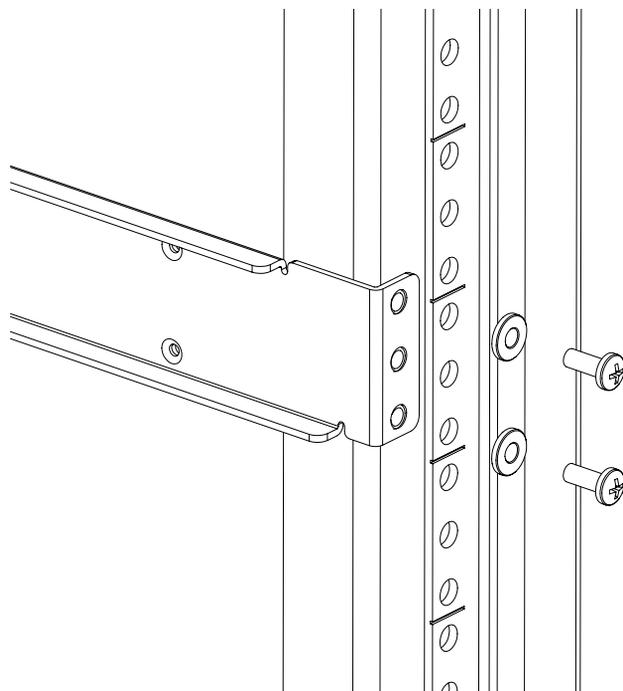

Figure 6: Assembling the outer rails (HP System/e rack)
- For an HP System/e rack, install two #10-32 x 1/2-inch Phillips pan-head screws with captive star lock washers and two #10 alignment washers in the upper and lower hole locations of the right rail. Then install two #10-32 x 1/2-inch Phillips pan-head screws with captive star lock washers and two #10 alignment washers in the upper and lower hole locations of the left rail. See Figure 6.